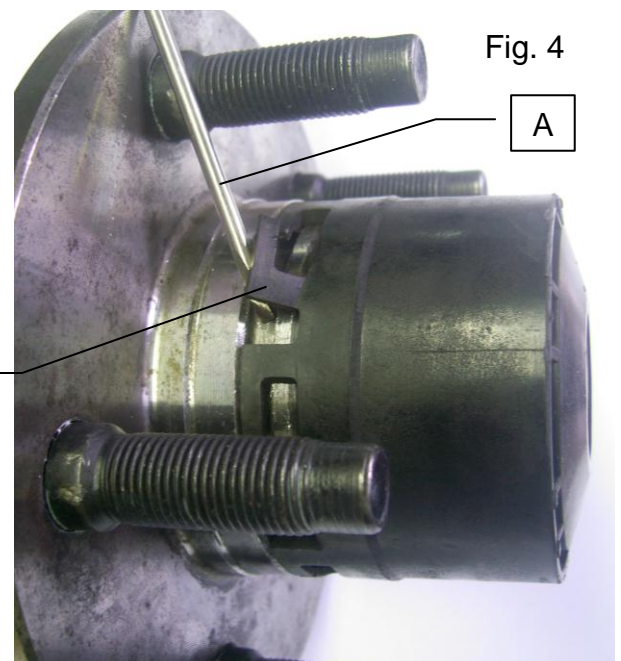

Fig. 4
- 3- Insert the screwdriver "A" in each claw "B", as shown in [Fig. 4] and pull to disconnect.